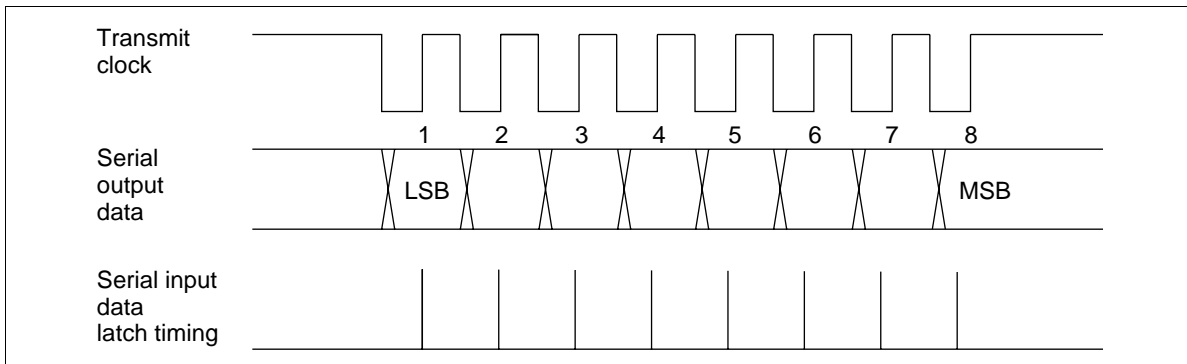

**Figure 31 Configurations and Functions of the Mode Registers**
**Serial Mode Register (SMR: \$005):** Four-bit write-only register that controls the  $R0_0/\overline{SCK}$  pin, prescaler division ratio, and transmit clock source (table 25 and figure 31). Writing to this register initializes the serial interface.